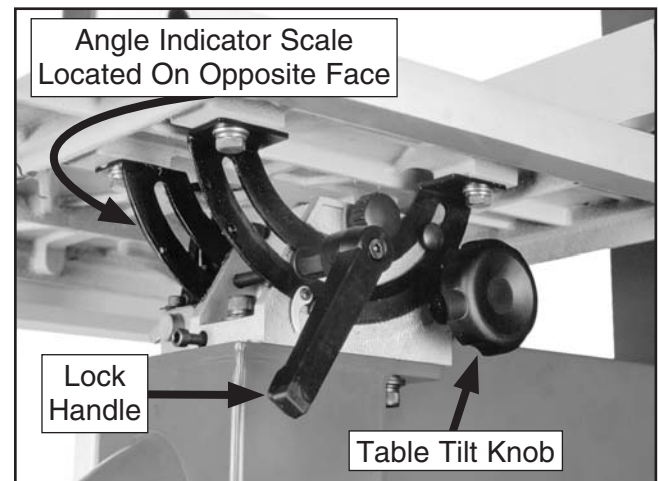

Figure 70. G0514X Table tilt controls.
2. Loosen the lock handle on the table trunnion, shown in **Figure 70**.